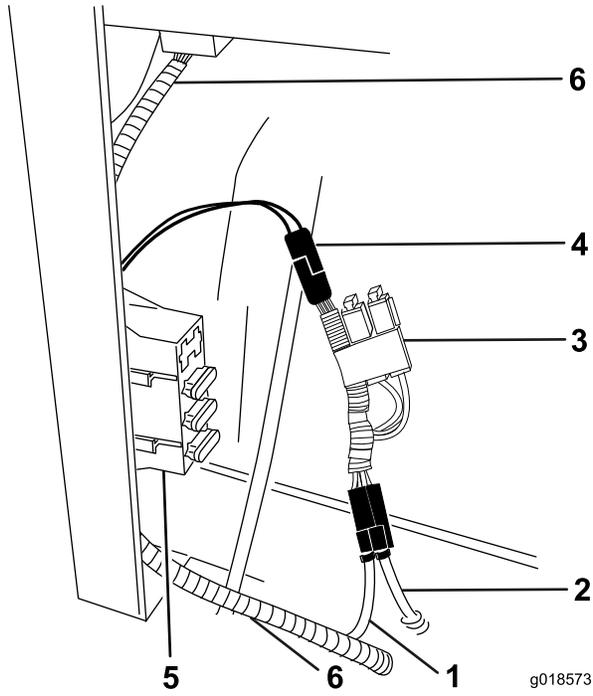

Figure 6
- Plug the single end of the Y-adapter into the short connector behind the fuse block (Figure 6).
- Plug the wire harness for the lights into the other end of the Y-adapter (Figure 6).
- Plug the wire harness for the Hydraulic Cooling Assembly (if present) into the Y-adapter (Figure 6).
Note: Position the Y-adapter so that the fuses are in an upright position (Figure 6).